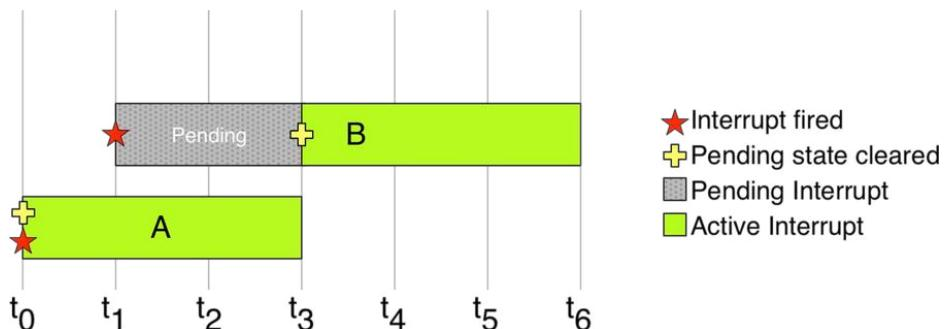

Figure 7: The relation between the pending bit and the interrupt active status
**Figure 7** shows how this works. Interrupt A fires at the time  $t_0$  and, since the CPU is not servicing another interrupt, its pending bit is cleared and its execution starts immediately8 (the interrupt becomes *active*). At the time  $t_1$  the B interrupt fires, but here we suppose that it has a lower priority than A. So it is left in pending state until the A ISR concludes its operations. When this happens, the pending bit is automatically cleared and the ISR becomes *active*.